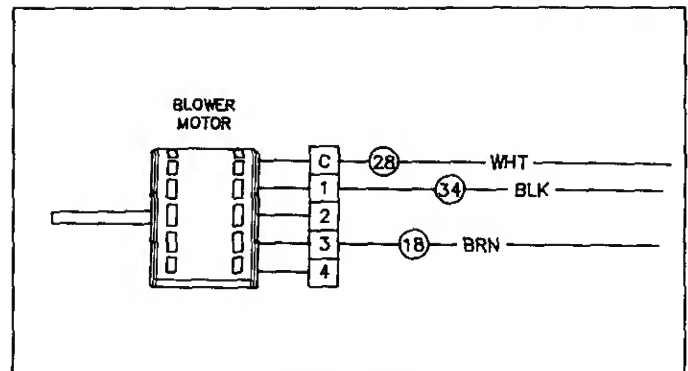

FIGURE 37A
4. Make blower speed changes at connector block located at side of blower door. See Figure 37A.